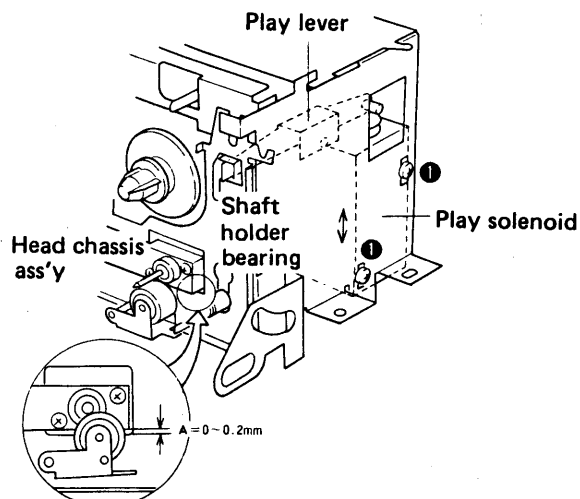

Fig. 8-3 Play Solenoid Adjustment
2. Loosen screws ① and adjust the mounting position of the play solenoid so that the square hole of the head chassis ass'y fits flush against the shaft bearing holder (i.e. 0 separation), as shown in Fig.8-3.